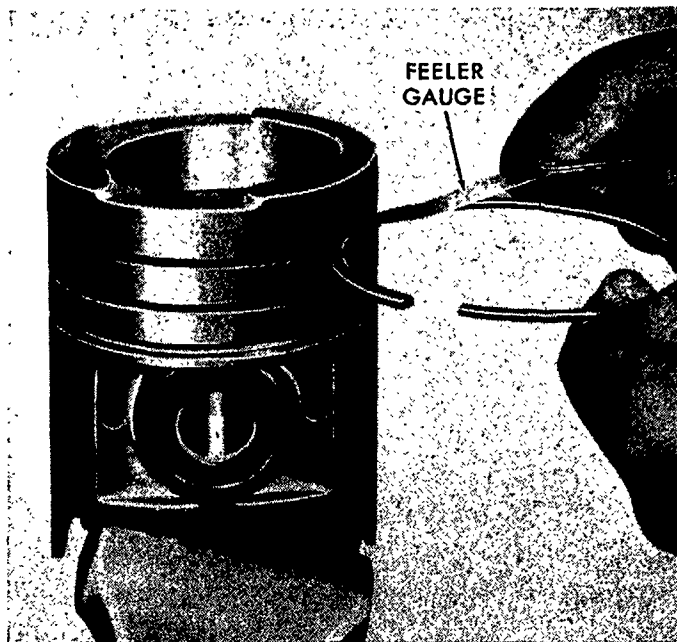

Figure 48
1. Inspect pistons for damage at the ring lands, skirts, and pin bosses. Check for separation of the top ring insert from the piston. Check for wear in the ring lands by using a new ring and a feeler gauge, as shown in Figure 48. The rings should have the clearances as specified on page 65.